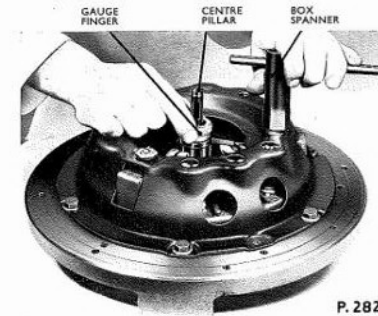

Fig. D.13. Adjusting the release lever height using the Churchill Tool 99A
2. Pressing downwards on the gauge finger, to ensure it is bearing squarely on the adaptor, adjust each lever in turn by means of the adjusting nuts until it just contacts the gauge finger (see Fig. D.13).